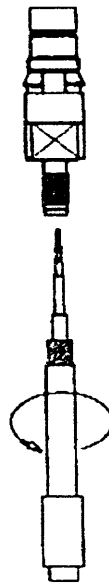

Figure 6
5) Crimp the contact. Withdraw the assembly from the tool and remove the adaptor. Check that the centre conductor is visible through the inspection hole. figure 6